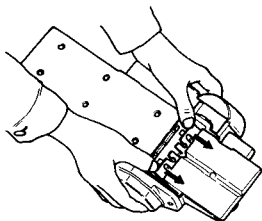
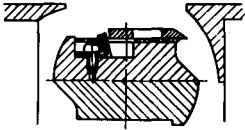

Fig. 9
Fig. 10 (Correct installation)
- (1) Turn the cutter block flat surface sideways, and assemble the adjusted cutter blade as shown in Fig. 9. Ensuring that the leaf spring on the cutter block is correctly fitted to the hole on the rear plate, push the back of the cutter blade with a fingertip in the direction indicated by the arrow, until the edge of the back metal is properly fitted to the cutter block surface. Correct installation is illustrated in Fig. 10.